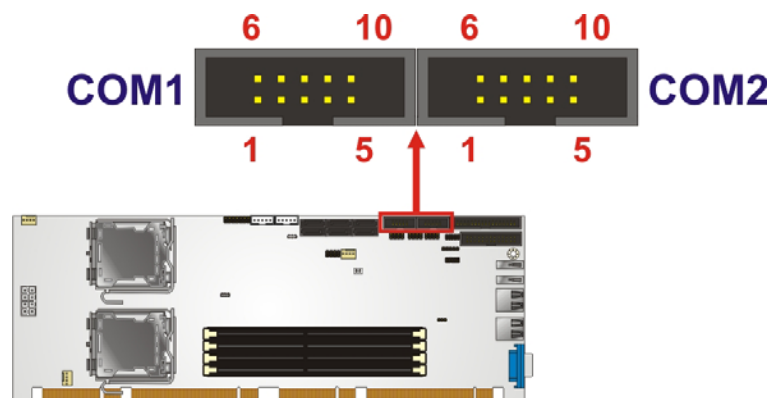

Figure 3-14: Serial Connector Pinout Locations
- CN Location:** See Figure 3-14